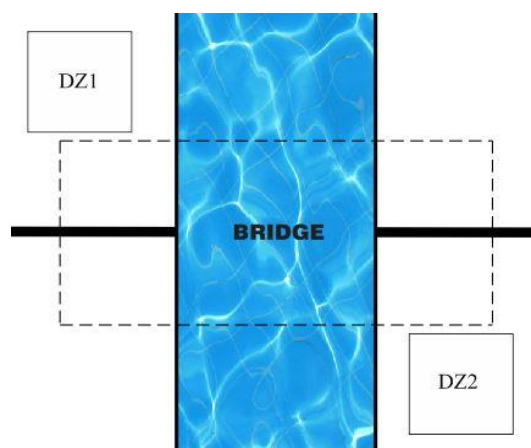
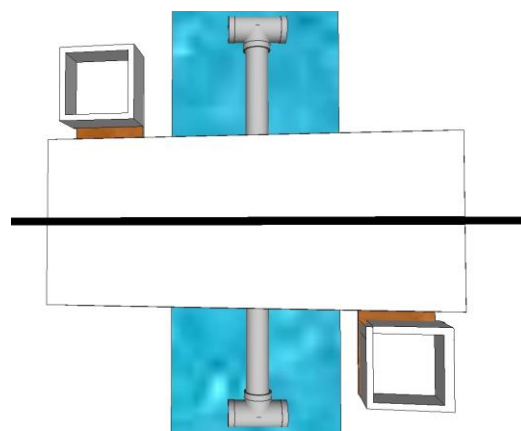

Figure 4a: Markings on the flex sheet
Figure 4b: Aligning of Bridge on the flex sheet
- Align the Bridge along the dotted markings on the flex sheet making sure that the containers are aligned with Weight Deposition Zones DZ1 and DZ2. The images before and after placing the finished Bridge in the flex sheet will look like Figure 4a and Figure 4b respectively